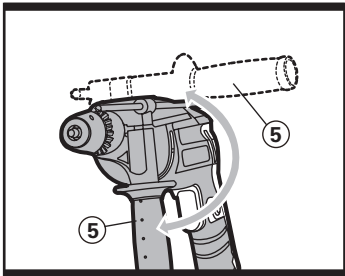

Fig 4
To fit the handle (5), slide the handle onto the drill and rotate to the desired working position. To loosen the side handle, rotate the handgrip clockwise. To tighten the side handle, rotate the handgrip counter-clockwise. Always use the auxiliary handle when you use the tool (See Fig 4).